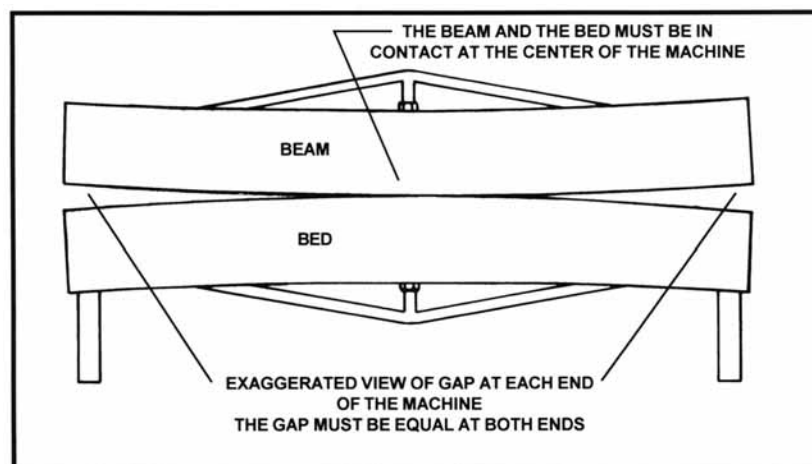

Figure 11. Proper Clearance Between the Upper Beam Clamp and the Bed
5. When looking from the rear of the brake, the upper beam and the bed should be in contact at the center and showing a crack of light at each end (see Figure 11). If less light shows at one end, loosen the rear floor bolt at that end and shim under the leg until the light shows evenly at both ends.
6. Tighten the lower toggle pin adjusting nut against the bottom of the toggle anchor (see Figure 11).